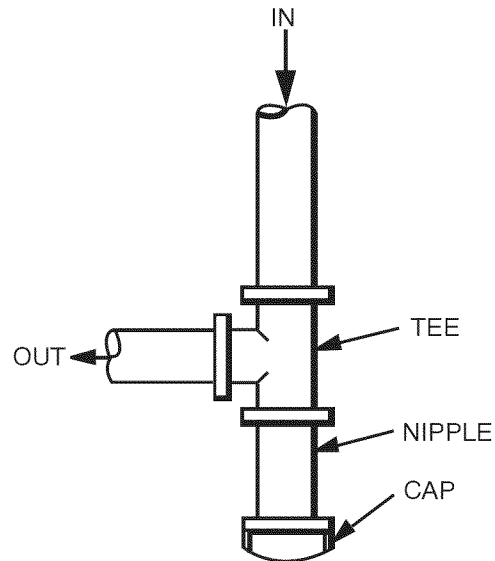

Fig. 11 - Sediment Trap
- Install sediment trap in riser leading to heating section (See Fig. 11). This drip leg functions as a trap for dirt and condensate.